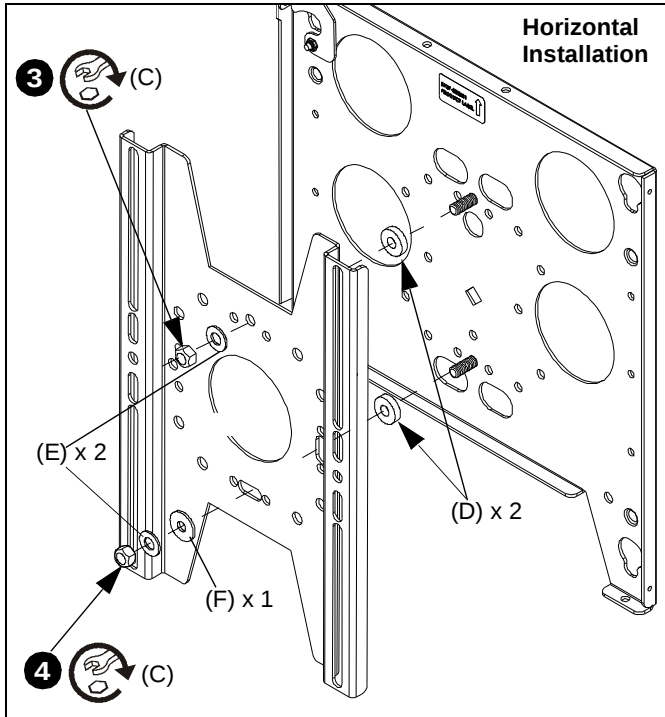

Figure 8
3. Secure top of faceplate (A) to the truss plate (B) using one 3/8" flat washer (E) and one 3/8" Stover lock nut (C). (See Figure 8)
4. Secure bottom of TPS faceplate (A) to the truss plate (B) using one .094" washer (F), one 3/8" flat washer (E) and one 3/8" Stover lock nut (C). (See Figure 8)